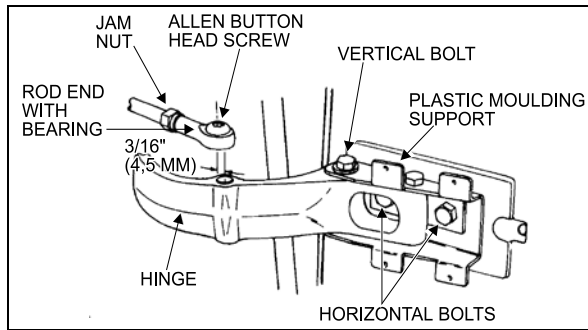

FIGURE 32: UPPER DOOR HINGE
2. Remove the Allen button head screw and the washer retaining the rod end with bearing to the upper hinge. See Figure 32.